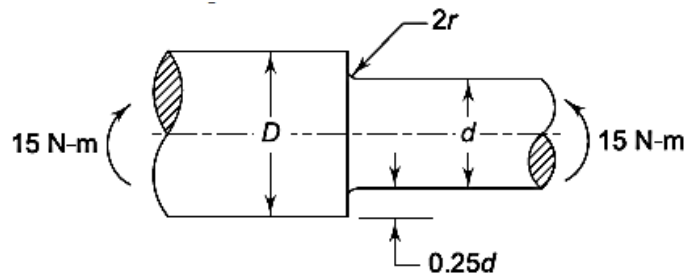

Figure 6.2
2. A round shaft made of a brittle material and subjected to a bending moment of 15 N-m is shown in Fig. 6.2. The stress concentration factor at the fillet is 1.5 and the ultimate tensile strength of the shaft material is  $200 \text{ N/mm}^2$ . Determine the diameter  $d$ , the magnitude of stress at the fillet and the factor of safety.